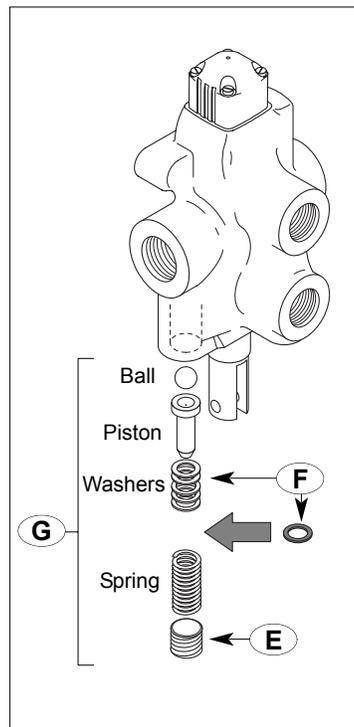

fig. 6
1. Remove the bottom set screw of the bypass — *fig. 6 detail E*.
2. Add another washer like those already in there — *fig. 6 detail F*.